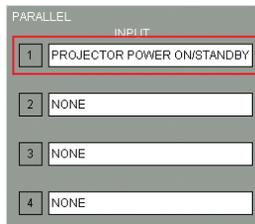

Fig. 4 PARALLEL/PROJECTOR CONTROL Screen
2. Select PROJECTOR POWER ON/STANDBY on the PARALLEL/PROJECTOR CONTROL screen. This selection appears on a drop-down list on INPUT 1 (Fig. 4).